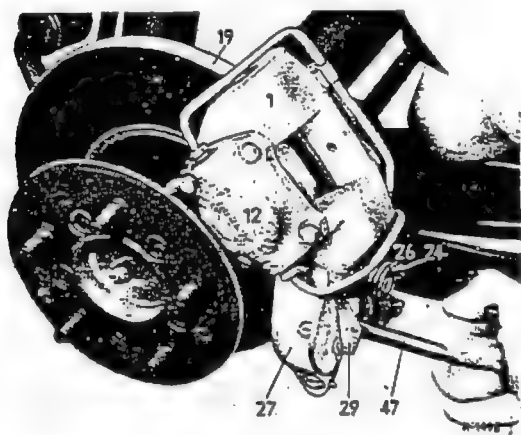

Fig. 42-10/15
5. Back out the wing nut (8) on the relay lever (5) as far as it will go. (Fig. 42-10/16).
6. Install new friction pads (29) in the lining carriers (27a) and (27b) and tighten the hexagon nuts of the cheese head screws (Fig. 42-10/14).